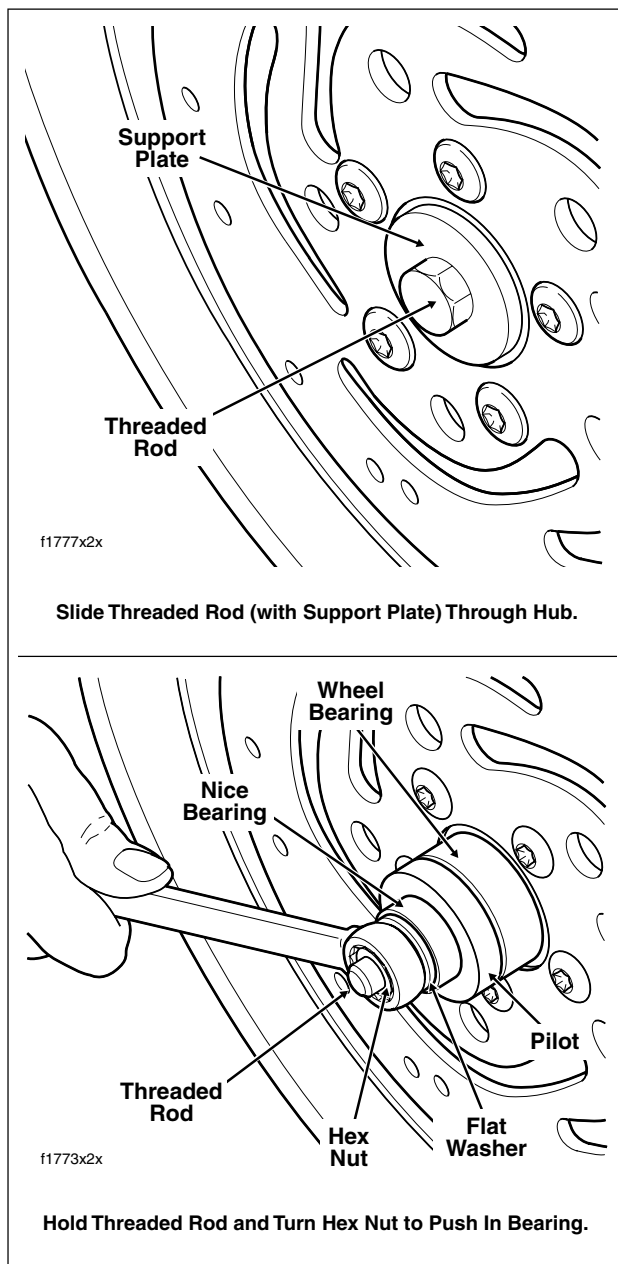

Figure 2-13. Install Sealed Wheel Bearings
- Slide support plate onto threaded rod. Slide rod through hub on the sprocket side of the wheel. See upper frame of Figure 2-13.
- Holding threaded rod on opposite side of wheel to prevent rotation, turn hex nut to install bearing. See lower frame of Figure 2-13. Bearing is fully seated when it makes firm contact with the counterbore.